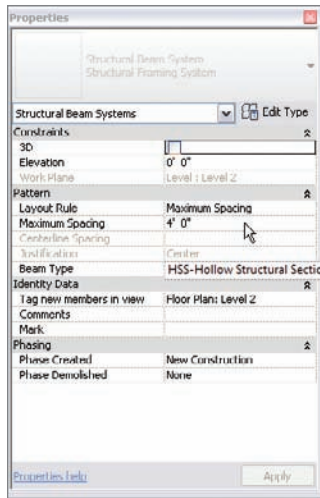

FIGURE 8.42 Changing the properties to reflect a 4'-0" maximum spacing
7. Change the Maximum Spacing value to 4'-0", as shown in Figure 8.42.